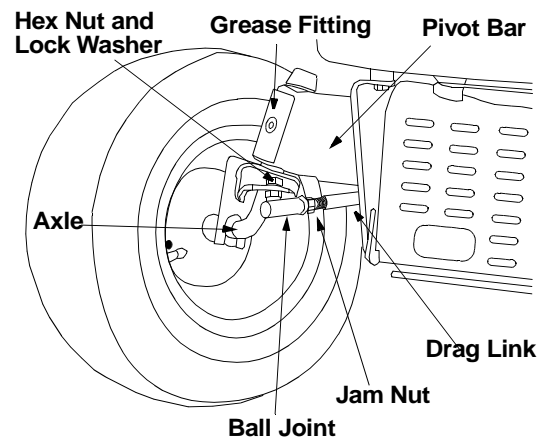

Figure 9
- Loosen the jam nut found on the drag link at the rear of the ball joint. See Figure 9 .
- Remove the hex nut and lock washer on the top of ball joint. See Figure 9 .
Each of the front wheel axles is equipped with a grease fitting (Figure 9 ). Lubricate with a grease gun after every 25 hours of tractor operation.